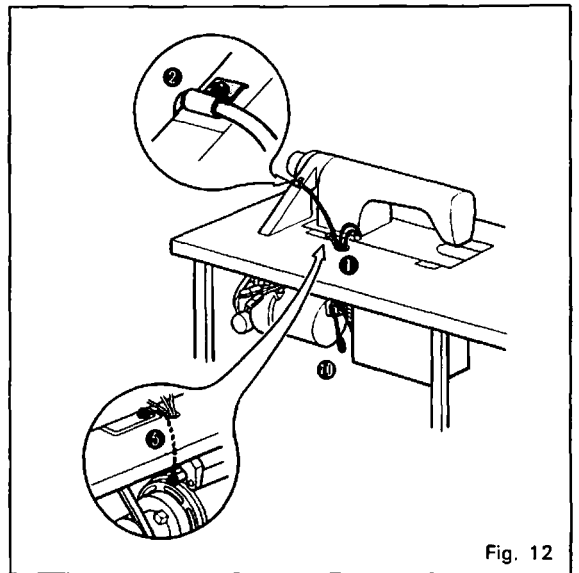

Fig. 12
(3) Connection of wires
- I) Put the plugs out of sewing machine head and synchronizer into the table top hole ①. The wire out of synchronizer should be fixed with wire supporter ② on the belt cover. Connect the plugs ④ comes from control box ③. (Figs. 12, 13)
- II) To prevent the static electricity, connect the earth wire ⑤ out of table hinge to the bracket of motor.